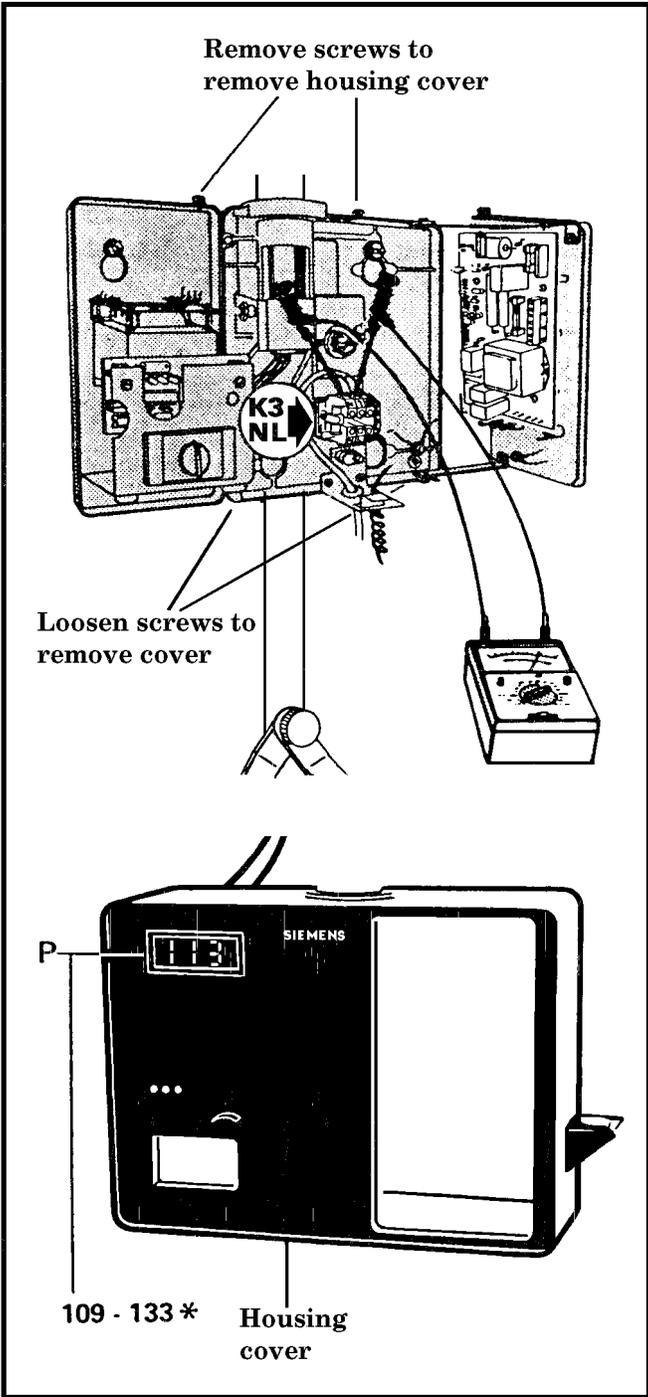

Figure 3-15
| (1) Remove the two screws on top of the front cover. (See Figure 3-15.)        |   |   |
| (2) Remove the two screws on the bottom of the front cover. (See Figure 3-15.) |   |   |
| c. Connect the multimeter leads to terminals K3 and NL. (See Figure 3-15.)     |   |   |
- d. Connect the multimeter test leads to terminals K3 and NL on PC-board D3. (See Figure 3-15.)
- g. Adjust R7 on PC-board D3 until the unit's DVM reading is the same as the multimeter connected across K3 and NL. (See Figures 3-15 and 3-16.)
- (1) Turn R7 clockwise to increase the voltage reading on the unit's DVM until it matches the reading with the multimeter connected across K3 and NL.